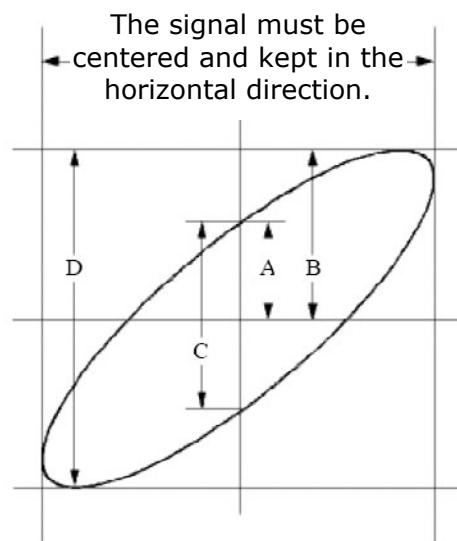

Figure 87. Lissajous Graph.
- 8 With the elliptical oscillogram method adopted, observe and calculate the phase difference (see Figure 87).